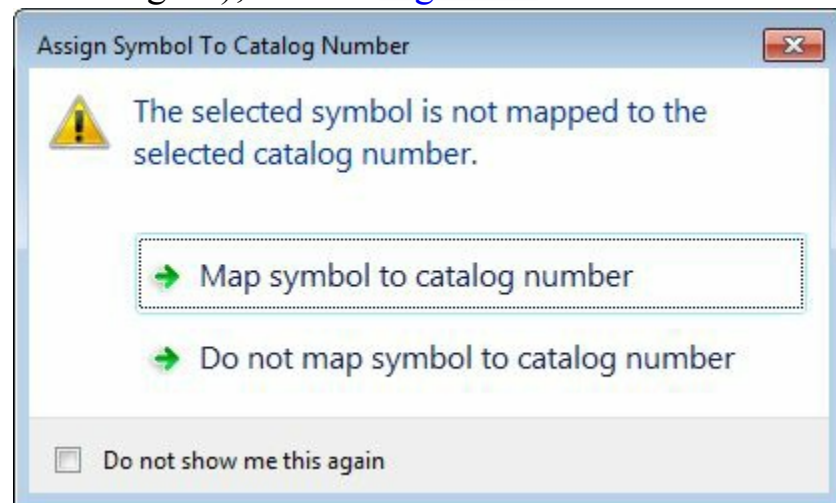

Figure-21. Assign Symbol To Catalog Number dialog box
- Select the desired button from the list of symbols, in our case, **Illuminated Push Button NO**. The **Assign Symbol To Catalog Number** dialog box will be displayed (if the catalog number is unassigned); refer to Figure-21.